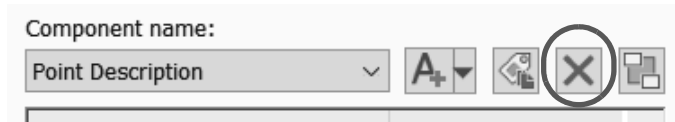

Figure 2–32
7. Select **Point Description** in the Component name drop-down list and do the following (shown in Figure 2–33):